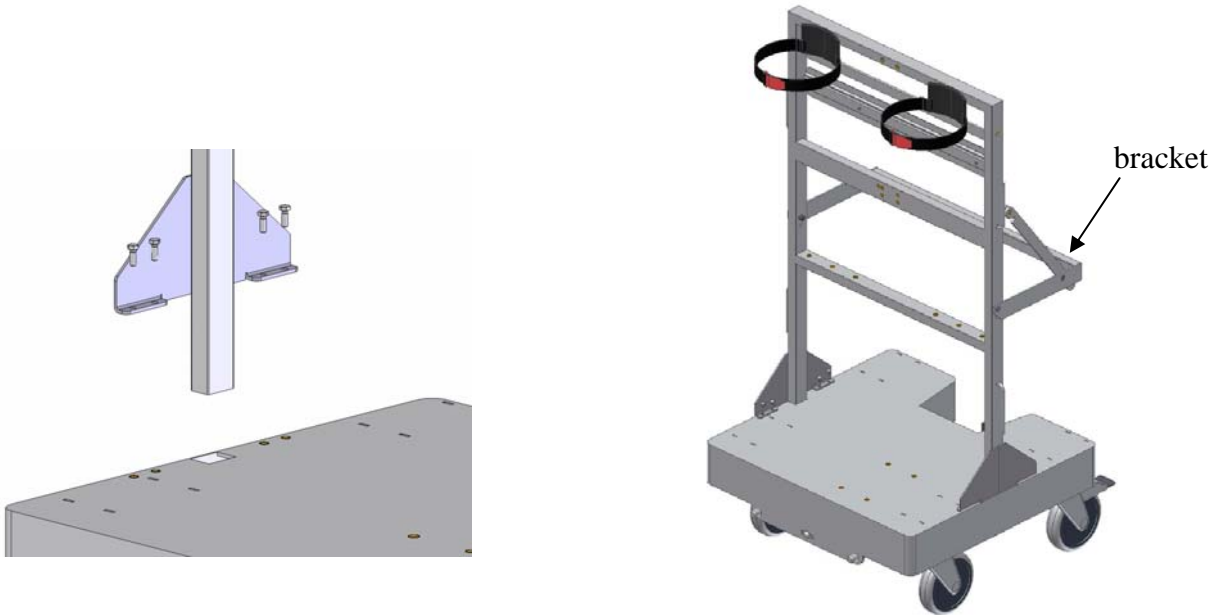

Figure 2 – Upright Installation
- Set the cart base onto its wheels and insert the upright into the square holes in the cart base (see Figure 2). Position the upright so the bracket is facing the same direction as the black plastic lock handle. Locate and install the eight (8) M5X14 screws (LMW P/N 3049367) to secure the upright to the cart base (see Figure 2, left).